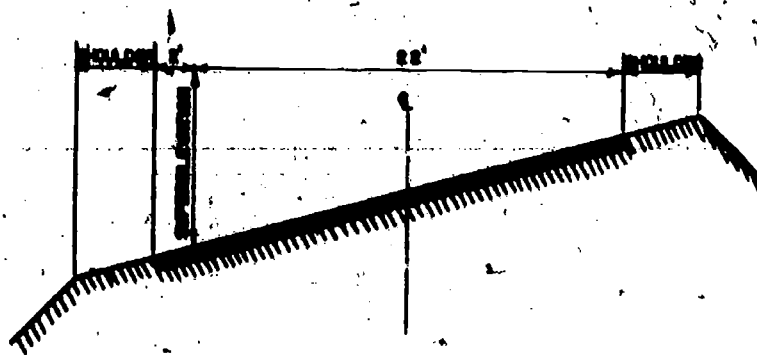

Fig 3-21. Superelevated road.
- (9) **Crown.** The crown of a road is the difference in elevation between the centerline and the edge of the traveled way. Crown is provided to insure the removal of rain water which falls on the road. The amount of crown provided primarily depends on the surface used. Surfaces such as concrete or bituminous materials require little crown because of their impermeability, whereas permeable (porous) surfaces such as earth or gravel require a relatively high crown. Crown is normally specified as the number of inches rise per horizontal foot measured from the edge of the surface to the centerline. For concrete and bituminous surface, the crown is normally from 1/4 to 1/2 inch per foot; for earth and gravel surfaces, from 1/2 to 3/4 inch per foot.
- (10) **Superelevation.** When traveling on a horizontal curve, vehicles have a tendency to tip over or slide toward the outer edge of the curve. This is caused by centrifugal force. The greater the speed of the vehicle and the sharper the curve, the larger this force becomes, thus increasing the hazard to safe vehicle operation. This force may be counteracted by raising the outer edge of the road to an elevation greater than the other side (fig 3-21). This difference in elevation is referred to as superelevation. Superelevation, like crown, is specified as the number of inches rise per horizontal foot. The value varies with the type of surface and with the design speed of the road. The minimum value for earth or gravel surface must be 1/2 inch per foot. Superelevated roads should be widened as well. When going around a sharp curve the back wheels of a vehicle do not necessarily follow in the tracks of the front wheels, and for this reason a greater width of traveled way is needed, as shown in figure 3-21.